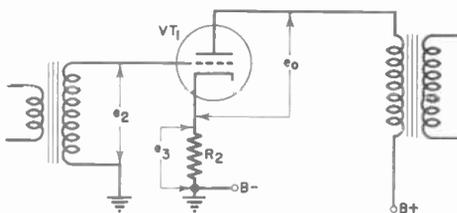

FIG. 9. Cathode degeneration circuit.
**Cathode-Resistor Feedback.** A different type of inverse feedback is used in the circuit of Fig. 9. This is a conventional voltage amplifier stage except that the cathode resistor bypass condenser has been omitted. With no condenser, the plate load impedance is not only that due to the output transformer but to cathode resistor  $R_2$  as well, and a small part of the output voltage is developed as  $e_3$  across the cathode resistor. Any voltage appearing across  $R_2$ , however, also appears in series with input voltage  $e_2$ . Since the plate voltage is  $180^\circ$  out of phase with the input voltage,  $e_3$